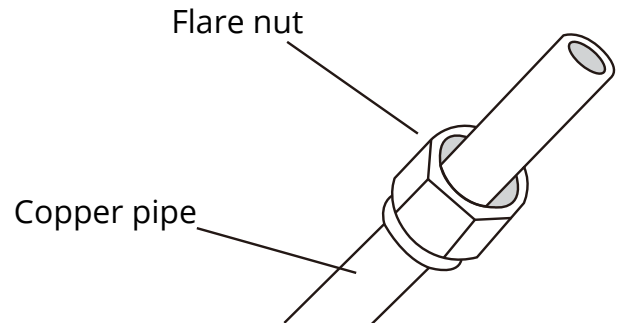

Fig. 2.11
3. Remove the cut-off valve of outdoor unit and take out the flare nut from the bag of indoor unit accessories. Fit the flare nut on the pipe, as shown in **Fig. 2.11**.